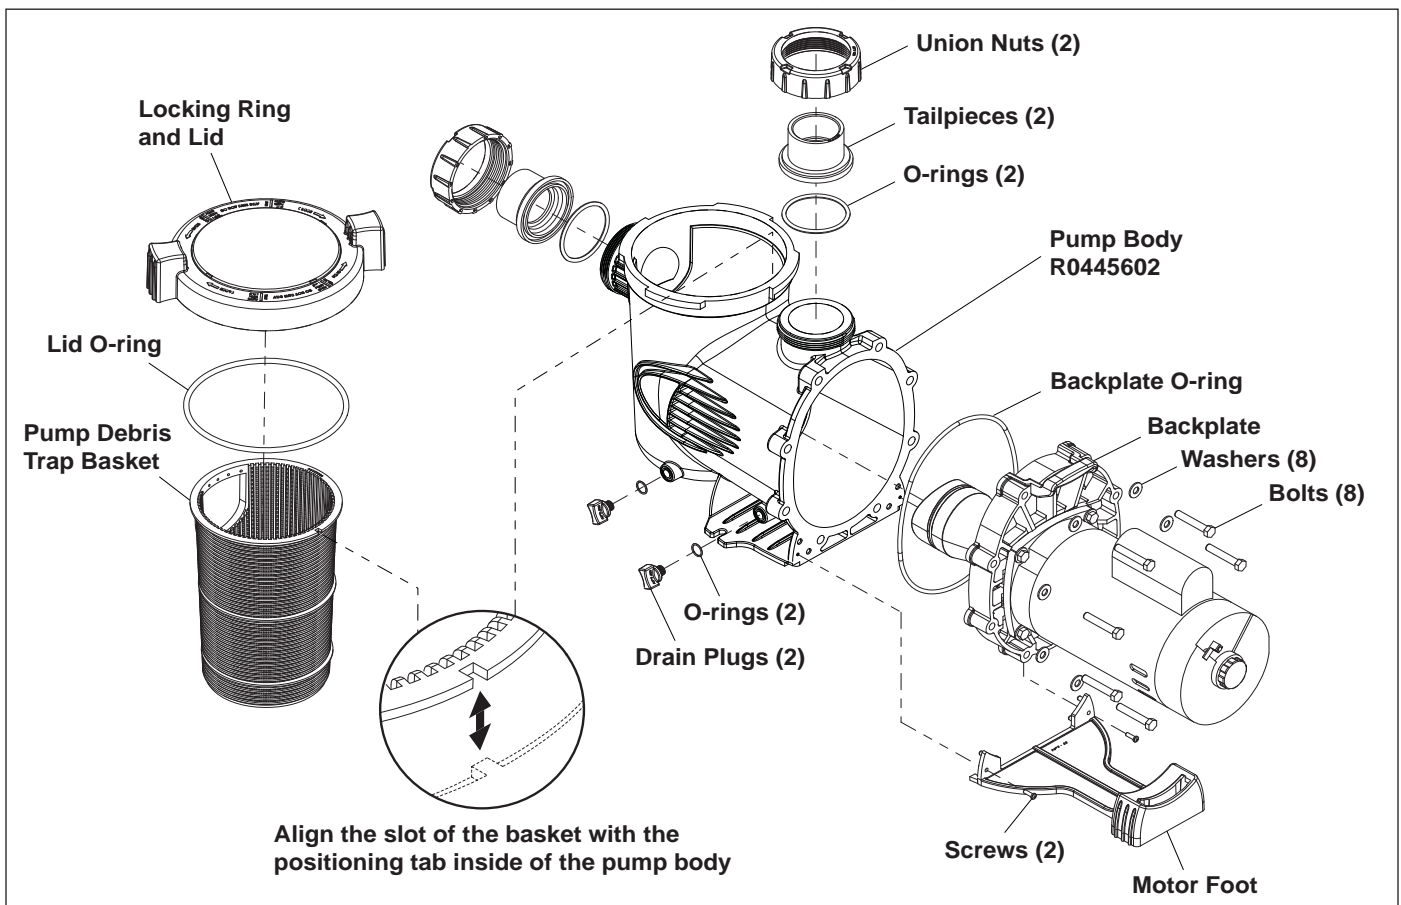

Figure 1. SHPF-CP and SHPM-CP Exploded View
This procedure contains information for the proper replacement of the pump body on Jandy® Stealth Pumps. Refer to Figure 1 and the parts list to identify part(s) included in replacement kit.
- 2.3 Remove the drain plugs and o-rings to drain the water from the pump. See Figure 1.
- 3.10 Place the pump debris trap basket assembly into the pump body. Make sure that the slot of the basket is aligned with the positioning tab inside of the pump body. See Figure 1.